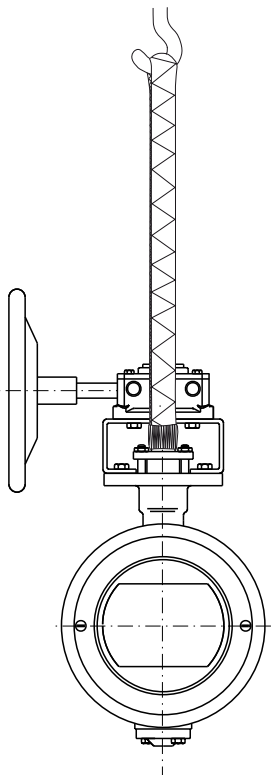

Fig.4-1
- Use lifting straps to lift the gear, when this is installed on the valve (→ Fig.4-1).